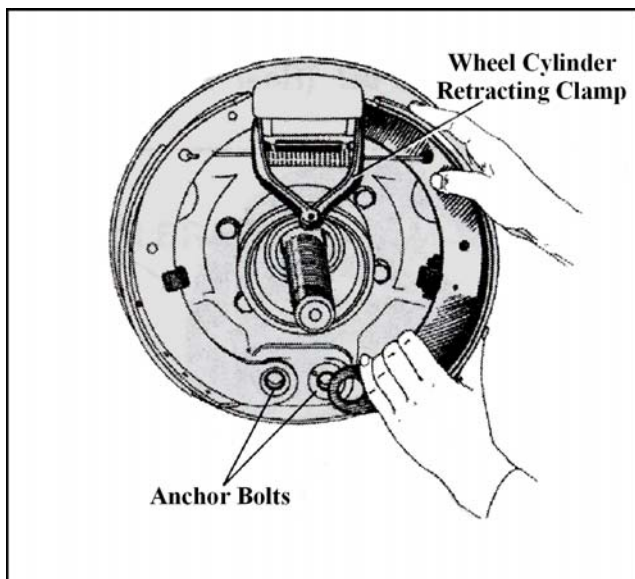

FIGURE 12
7. To install the brake shoes, (1939-42) remove the two anchor bolts (Figure 12 and eccentric bushings at the bottom of the backing plate. 1946-48 have fixed pins that protrude from the backing plate.
8. Insert the top of each shoe in each end of the wheel cylinder. Cross the shoes to install the retracting spring and install (1939-42) the two anchor bolts and eccentric washers and nuts or (1946-48) install over the protruding pins on the backing plate with double D washers and retainer pin (Refer to Figure 12 and 13).